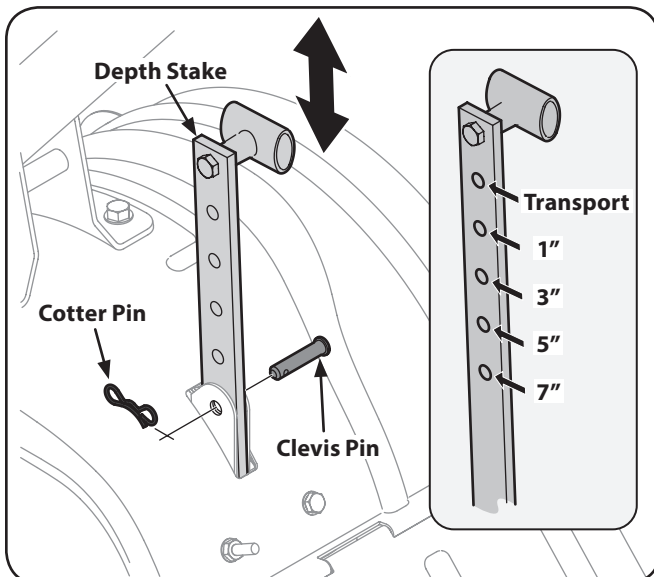

Figure 5-1
1. When using the tiller for the first time, use the second adjustment hole from the top (1" of tilling depth). See Figure 5-1.
6. To adjust the depth stake, remove the clevis pin and cotter pin. Move the depth stake to the desired setting and secure with the clevis pin and cotter pin. See Figure 5-1.